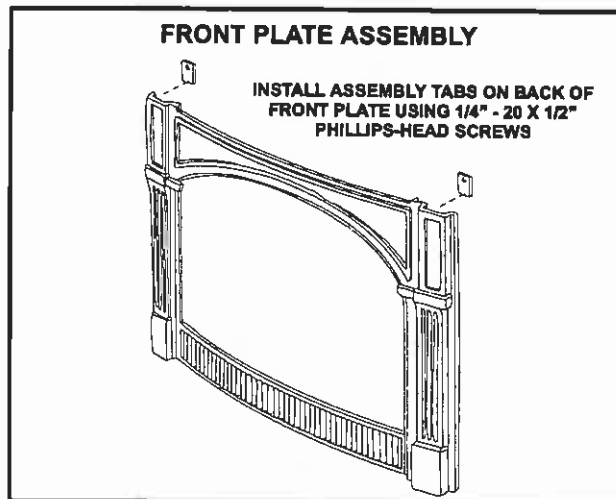

FIGURE 16
- 7 - Use two of the provided 1/4" - 20 X 1/2" Phillips-head screws to install two front plate assembly tabs on the front plate as shown in figure 16.